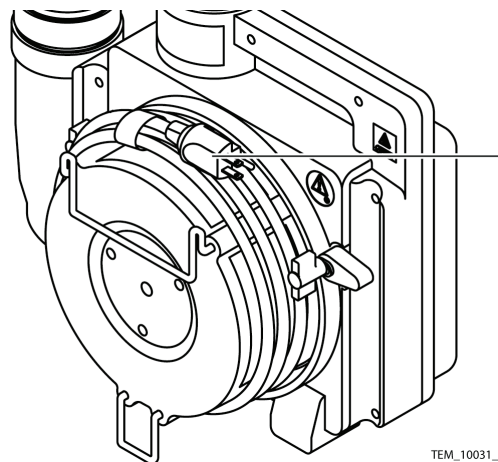

Figure 16. Power Cord
3. Unwind the power cord from the filter cover. See Figure 16.